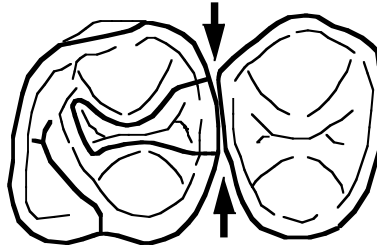

Fig 1
1. Draw an ideal occlusal outline form on your tooth (with a **very sharp** pencil) with the exception **that it is extended** to the defective marginal ridge area where it seems to break the contact with the adjacent tooth. Fig 1